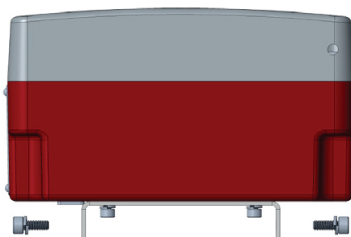

Fig. 20
4. Insert a wire for earth ground under the grounding bracket (see Figure 20) and screw it down tight.